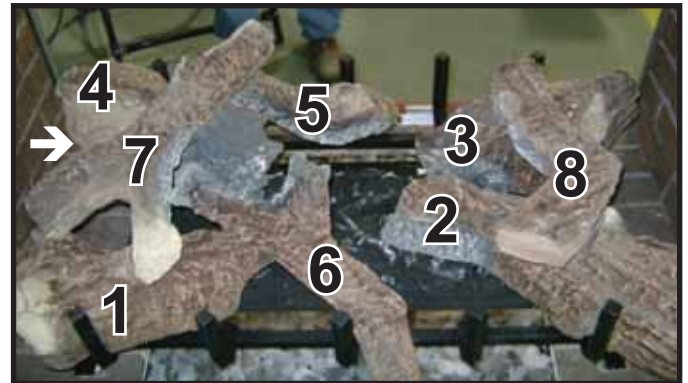

Figure 15.
**LOG NUMBER 8 (SRV2146-708):** Locate notch on Log #2 and notch on Log #3 indicated by the circles on Figure 14. Place Log #8 so that it rests in these notches. See Figure 15.